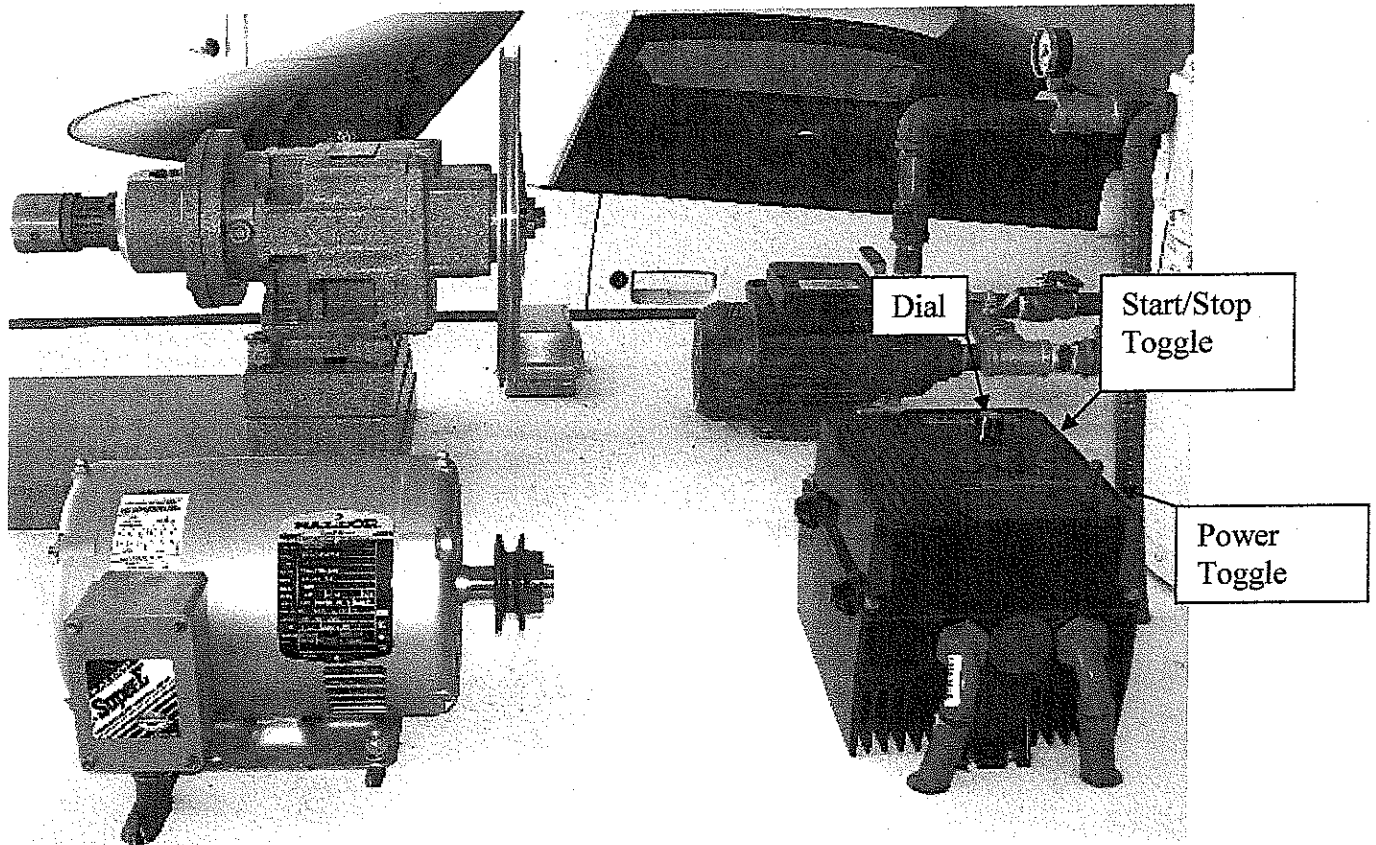

Figure 4. Expeller System
7. Flip the Power switch on the Variable Frequency Drive (see Fig. 4 on next page) to ON.